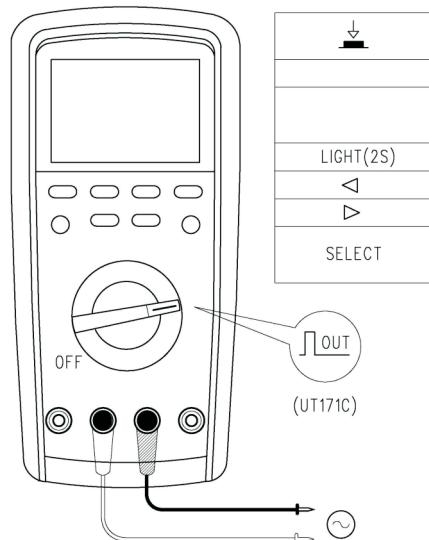

Figure 13
**11. Square-wave output (see Figure 13)**